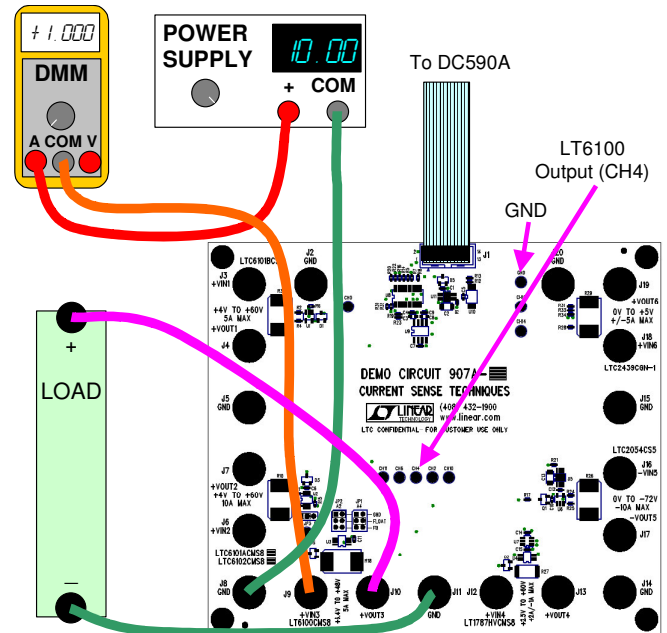

Figure 7. LT6100 Power and Load Connection
1. Refer to Figure 7 for the following connections.
5. For time-domain measurements and/or stand-alone evaluation, the current-monitor output signal is available on the CH4 turret as indicated in Figure 7.